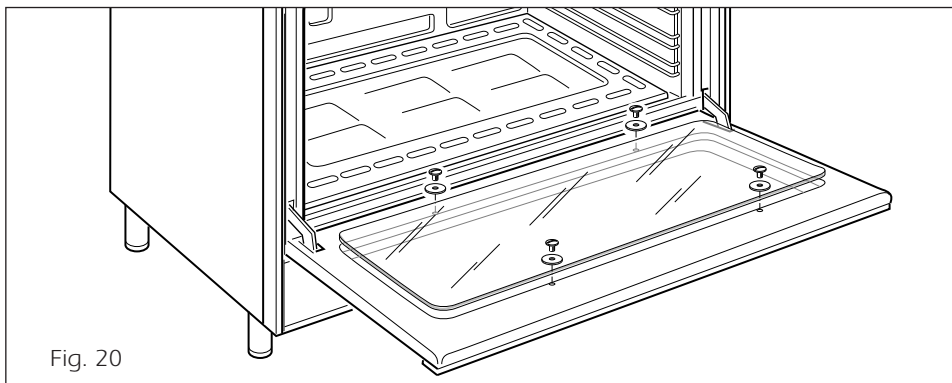

Fig. 20
- The inner glass door panel can easily be removed for cleaning by unscrewing the four screws (fig. 20).